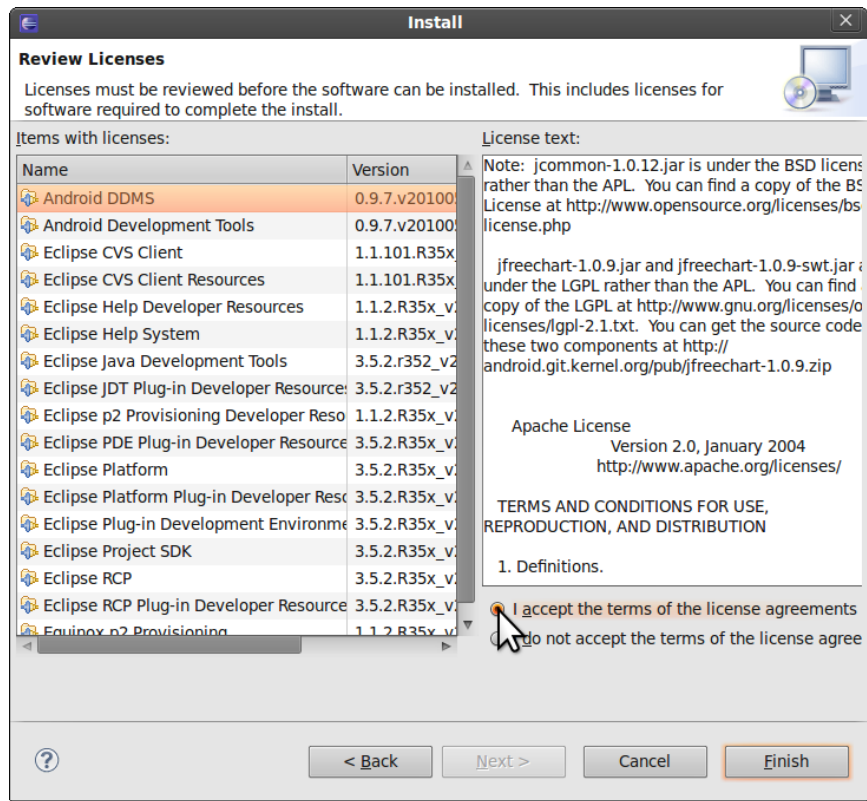

Figure 6-8. Long list of licenses
5. You must accept the terms of the licenses to proceed, as shown in Figure 6-8. Although they look long and tiresome, these are open source licenses that are actually pretty exciting as far as software licenses go, in that they permit the software to be modified and redistributed under a given set of conditions. For example, as of this writing, the two Android packages used a combination of the Apache 2.0, BSD, and Eclipse plug-in licenses.